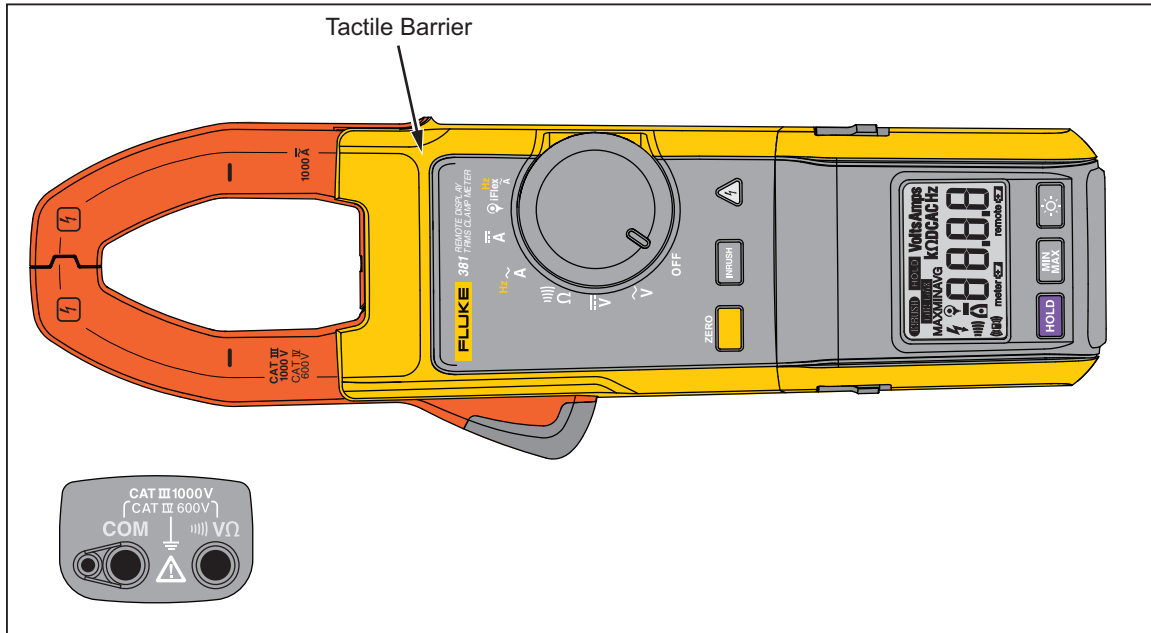

Figure 1. The Meter
- Hold the Product behind the tactile barrier. See Figure 1.